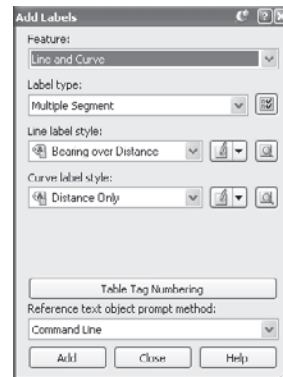

Figure 3.9
3. In the `Add Labels` dialog, change the `Label type` to `Multiple Segment`. Confirm that the `Line label style` is set to `Bearing over Distance` and the `Curve label style` is set to `Distance Only`, as shown in Figure 3.9. Click `Add`.